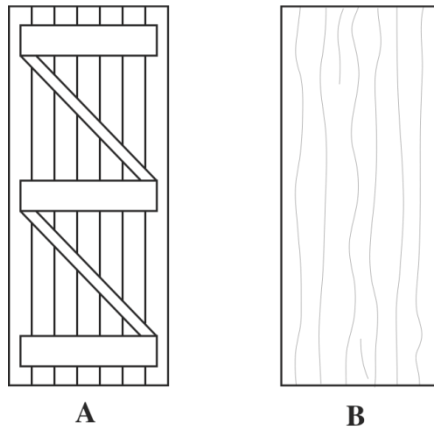

Figure 3. Two doors
- (c) **Figure 3** shows two doors labelled A and B.
Using labels A and B, name EACH of the doors shown in Figure 3. **(2 marks)**